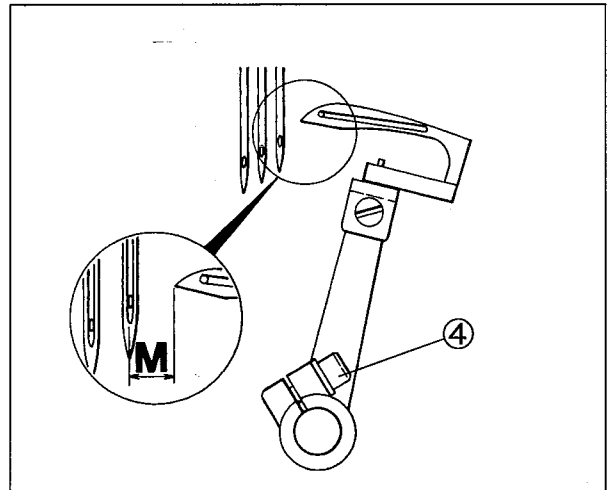

Fig. 60
Then, tighten the screw ④ securely. (Fig. 60)